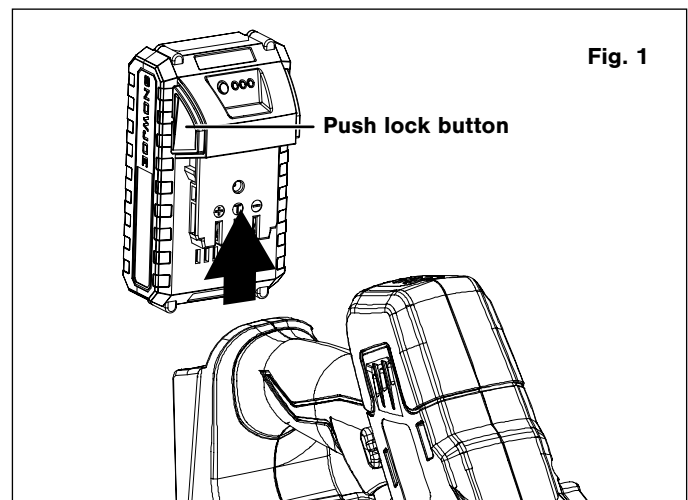

Fig. 1
1. Push the push lock buttons on either side of the battery pack to pull it out from the battery compartment (Fig. 1).